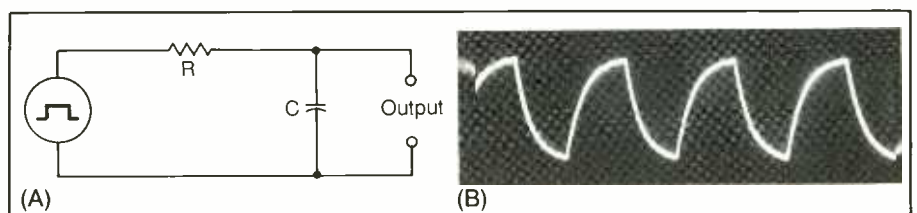
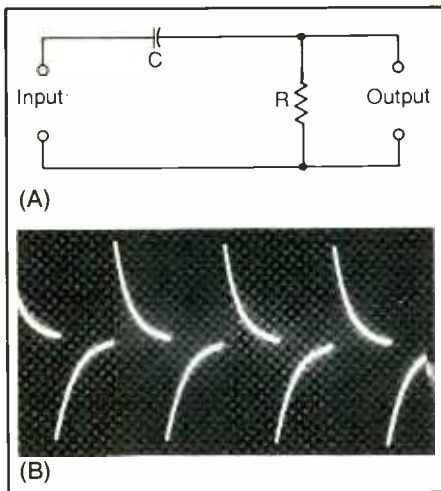
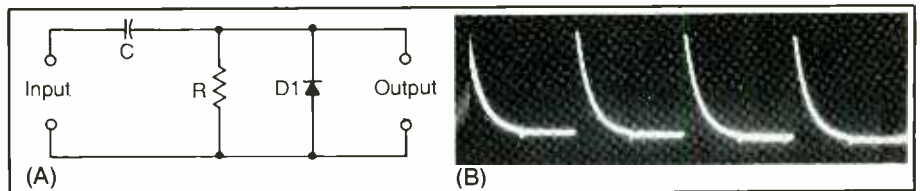
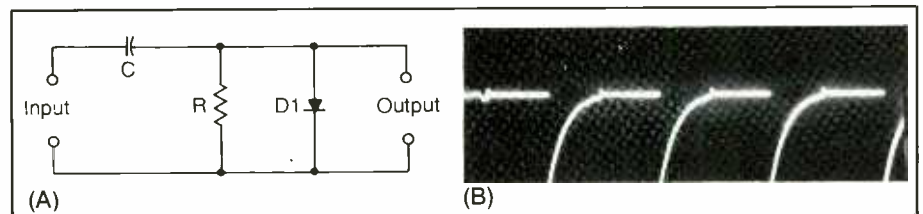

Fig. 2. An RC low-pass filter or integrator (A) and the output signal that occurs when a square wave is applied to its input (B).
Fig. 3. An RC high-pass filter or differentiator (A) and the output that occurs when a square wave is applied to its input (B).
Fig. 5. A diode connected across output of a differentiator circuit to clip negative peaks (A) and output signal that results from its inclusion in circuit (B).
Fig. 6. A diode connected across output of a differentiator circuit to clip positive peaks (A) and output signal that results from its inclusion in circuit (B).
Alignment of the two exposure masks—technically known as “registration”—is critical. The simplest way to assure this is to align the two exposure masks with the sides labeled “solder side” and “component side” facing out and punch pinholes in two or more strategically selected component-hole locations through both masks (see points “A” and “B” in Fig. 3). Place “solder side” mask copper side up on a double-sided pc blank that has been previously cut to size and gently center-punch the hole locations onto the copper surface of the blank. Remove the mask and drill No. 60 holes at each marked location.
plied to the input of an RC low-pass filter, or "integrator," network like that shown in Fig. 2(A), the output signal appears as shown in Fig. 2(B). Note here that the amplitude of the output signal is somewhat reduced compared to that of the original input signal, the result of losses (attenuation) in the RC network. Also note that the fast rise- and fall-time edges of the input signal have become curved in the output waveform so that it appears much like a capacitor charge/discharge waveform. This wave shape results from rolling off the high frequencies present in the square wave.
Figure 3(A) illustrates an RC high-pass filter, also referred to as a “differentiator.” In this circuit, the elements are the same as those used in the low-pass filter arrangement shown in Fig. 2(A). However, their respective roles are reversed. In this case, the high frequencies are not attenuated as much as are the low frequencies. Therefore, the square wave becomes tilted in favor of the high frequencies. Put another way, the
output waveform is “peaked up,” as shown in Fig. 3(B), which shows the output waveform with a characteristically fast rise time and an exponentially decaying fall time. This waveform, called a “differentiating square wave,” is used for applications such as counting or triggering other circuits.
Figures 5(A) and 6(A) show a “clamping diode” connected across the output of the differentiating RC network shown in Fig. 3(A). In the case of Fig. 5(A), the diode is connected such that it is reverse biased by positive output voltage excursions
and is forward biased by negative output excursions. The result is the waveform shown in Fig. 5(B). Here we see the same type of differentiation as before on positive peaks, but now the negative peak of the output waveform has been clipped.
If you are eagle-eyed, you can see a small "pip" on the Fig. 5(B) trace at the point where each negative excursion would have begun if the signal had not been clipped. This pip is the result of the junction potential of the diode. The experiment to make these photos used a network containing a 1N60 germanium diode, which had a 0.2- to 0.3-volt junction potential,
which is the approximate amplitude of the pips shown in both Fig. 5(B) and Fig. 6(B).
Exactly the opposite situation is illustrated in Fig. 6(B). In this case, the Fig. 6(A) circuit was arranged to clamp the positive-going spike so that only the negative spike remains. Otherwise, operation of the Fig. 5(A) circuit is identical to that of the Fig. 6(A) circuit.